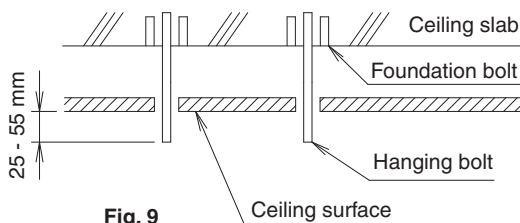

Fig. 9
(4) Install the hanging bolts.
- Adjust the length of the hanging bolt from the ceiling in advance. **(Refer to Fig. 9)**
- Parts shown Fig. 9 will be all field supply.